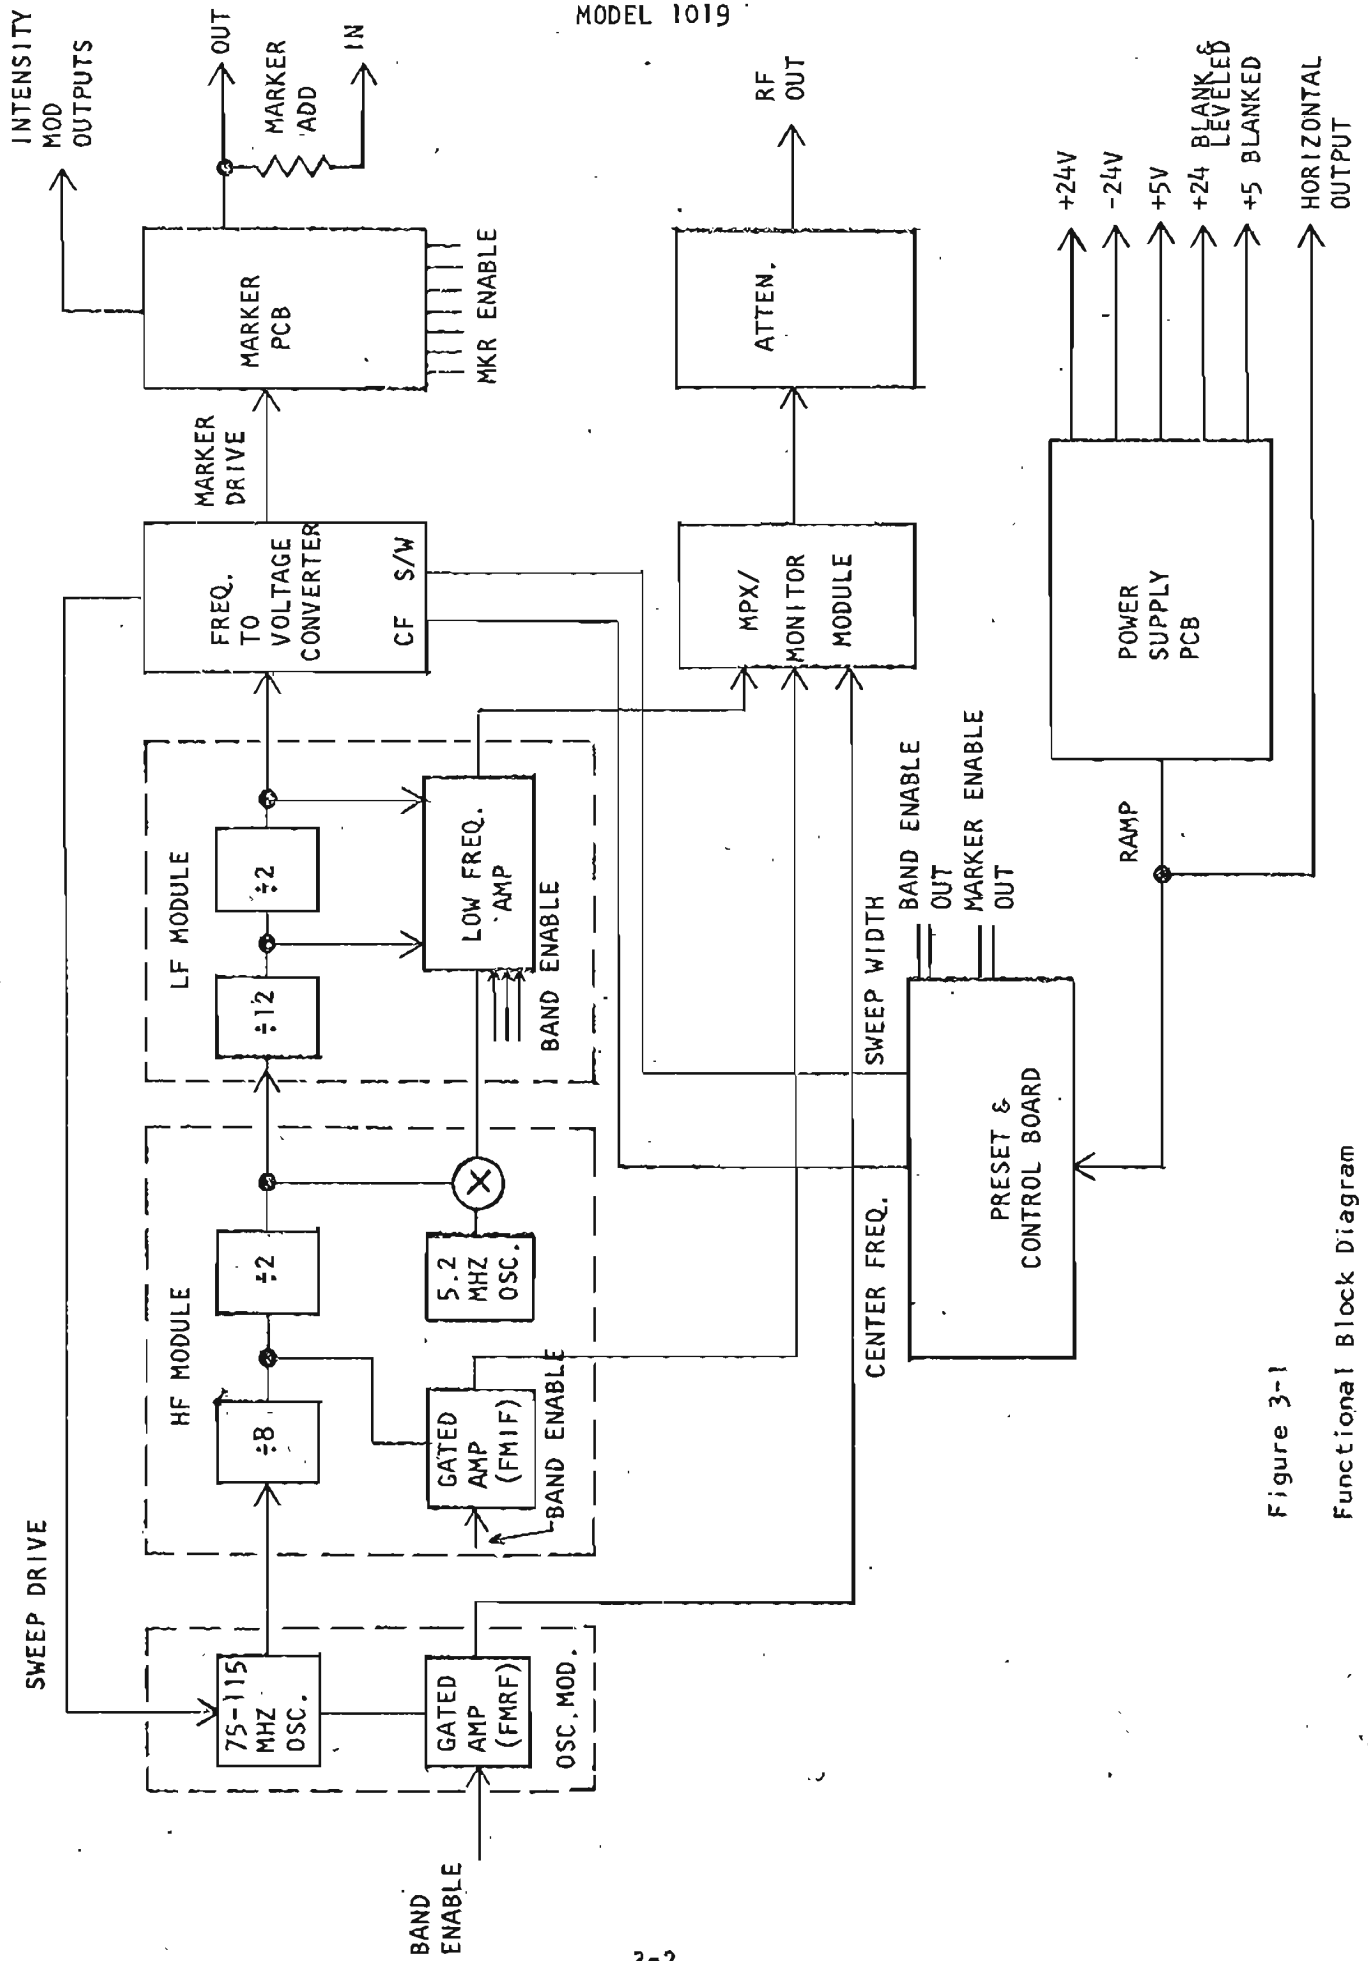

Figure 3-1
3.1 General Description (see Figure 3-1)